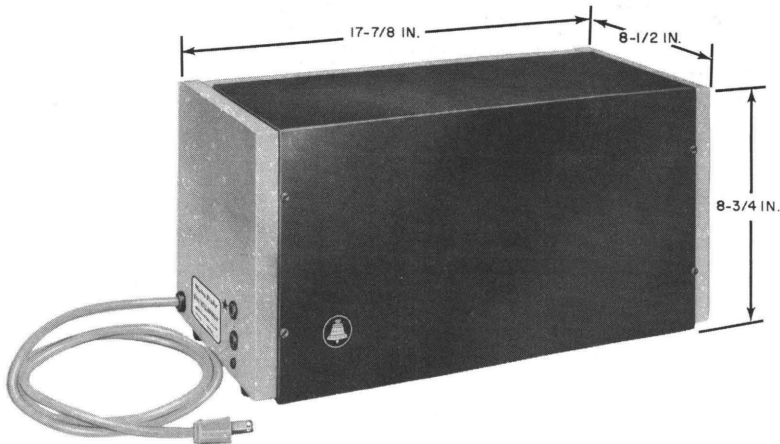

Fig. 6—KS-16765, List 1 Announcement Set
- Set, Announcement, KS-16765, L1 (Fig. 6, 7, and 8).